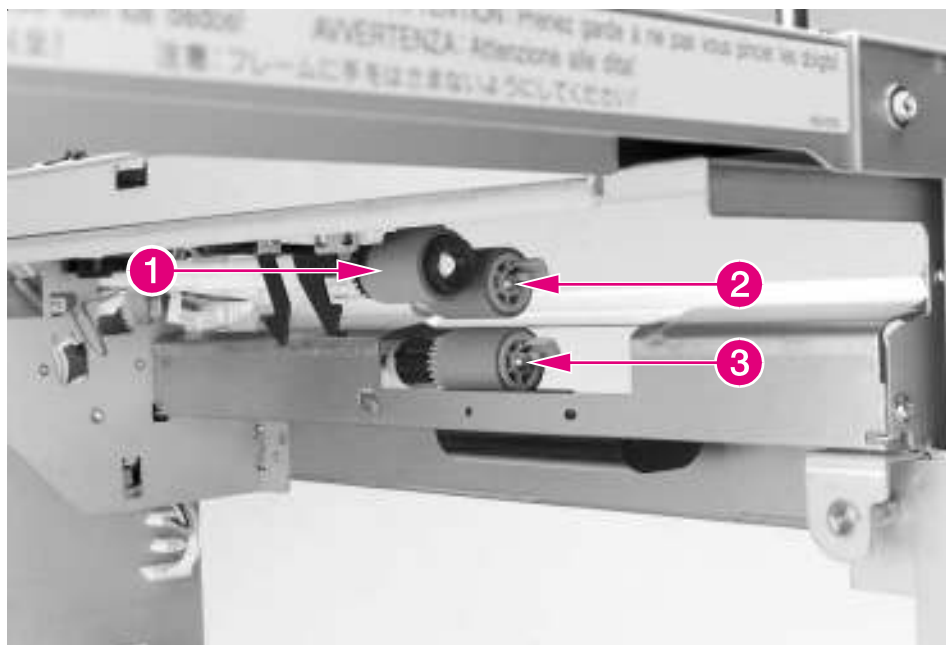

Figure 6-75 2000-sheet Input Tray Rollers: Pickup, Feed, and Separation
- The Pickup Roller is the upper-forward roller (Figure 6-75, callout 1).